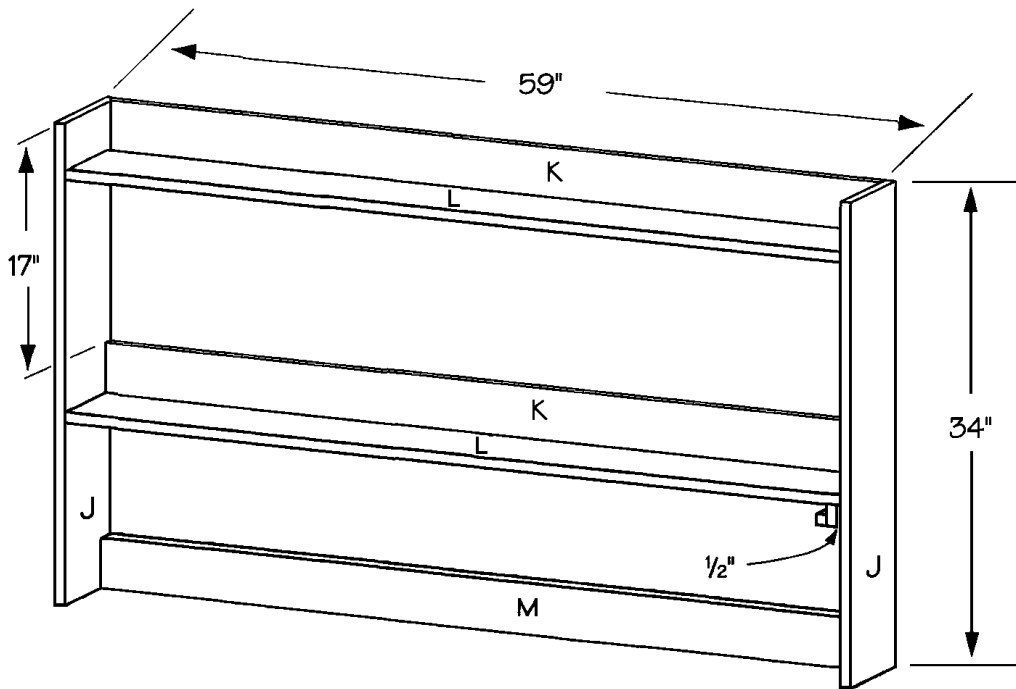

Figure 12
5. Mount one drawer support under the lower shelf (L), 1/2 from the right shelf side (J), as shown in *Figure 12*. Screw through the top of the shelf (L) into the drawer support, using two 1-14"-long screws.